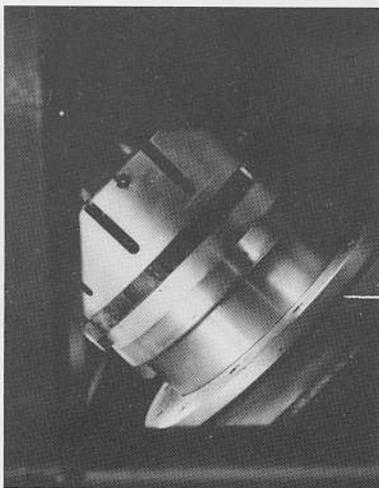

Fig. 33. Parallel Alignment of the RF Output Window Flange and the Transition.
- (f) Observe the rear of the transition, particularly the parallel alignment (Fig. 33) of the RF output window flange and its mating flange on the transition. Make any necessary adjustments, observing the CAUTIONS, until these two parts are parallel.